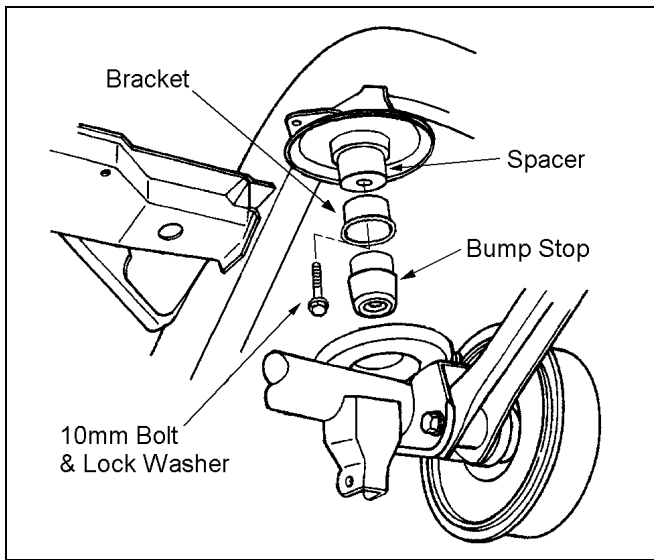

Figure 15
- 2) Insert Rancho spacer 420027 and reinstall the bracket with the 10mm hardware from kit 860161. Insert the bump stop into the bump stop bracket. See figure 15.